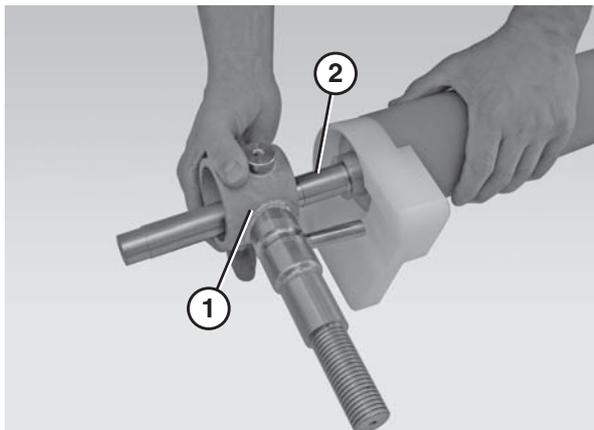

Figure 63
- Slide the motor support bracket (Figure 63, item 1) off the drive spindle (Figure 63, item 2).